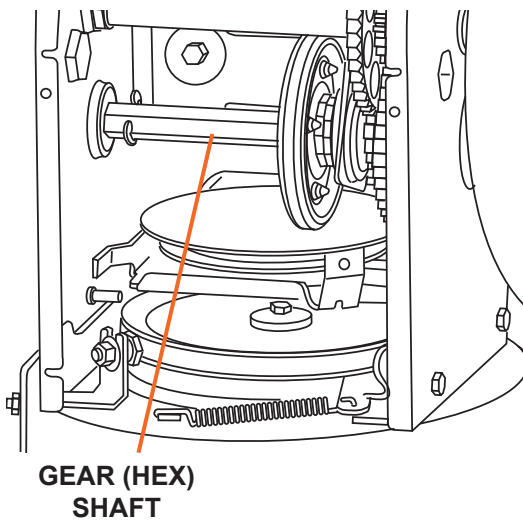

Figure 15
2. Apply a light coating of an all-weather multi-purpose grease to the hex shaft (see Figure 15).